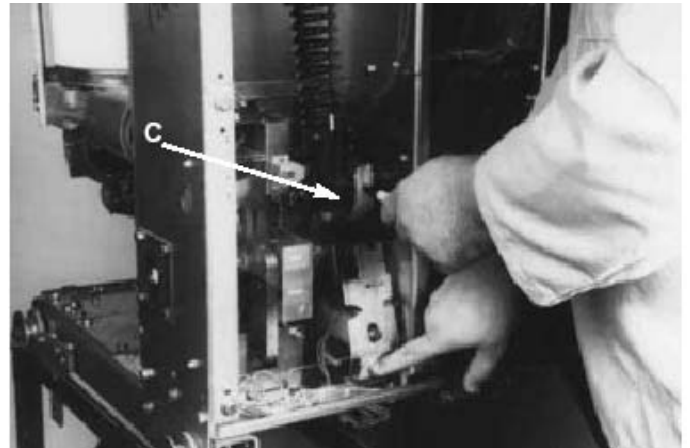

Figure 6-12 Manually Closing Circuit Breaker with Marker in Hole "C".
General Information: The CloSure™ Test can be performed on the VCP-W, VCP-WR, VCPW-ND, DHP-VR, W-VACR, and W-VAC lines of vacuum circuit breakers Refer to Table 6.4 a for list of circuit breakers. If the CloSure™ travel obtained is as specified, the mechanism performance is satisfactory. If the CloSure™ travel does not conform as shown in Figure 6-12, contact Eaton for further information. (See Step 13).
Step 8 - While holding the marker tip on the tape, close the breaker (Figure 6-12).